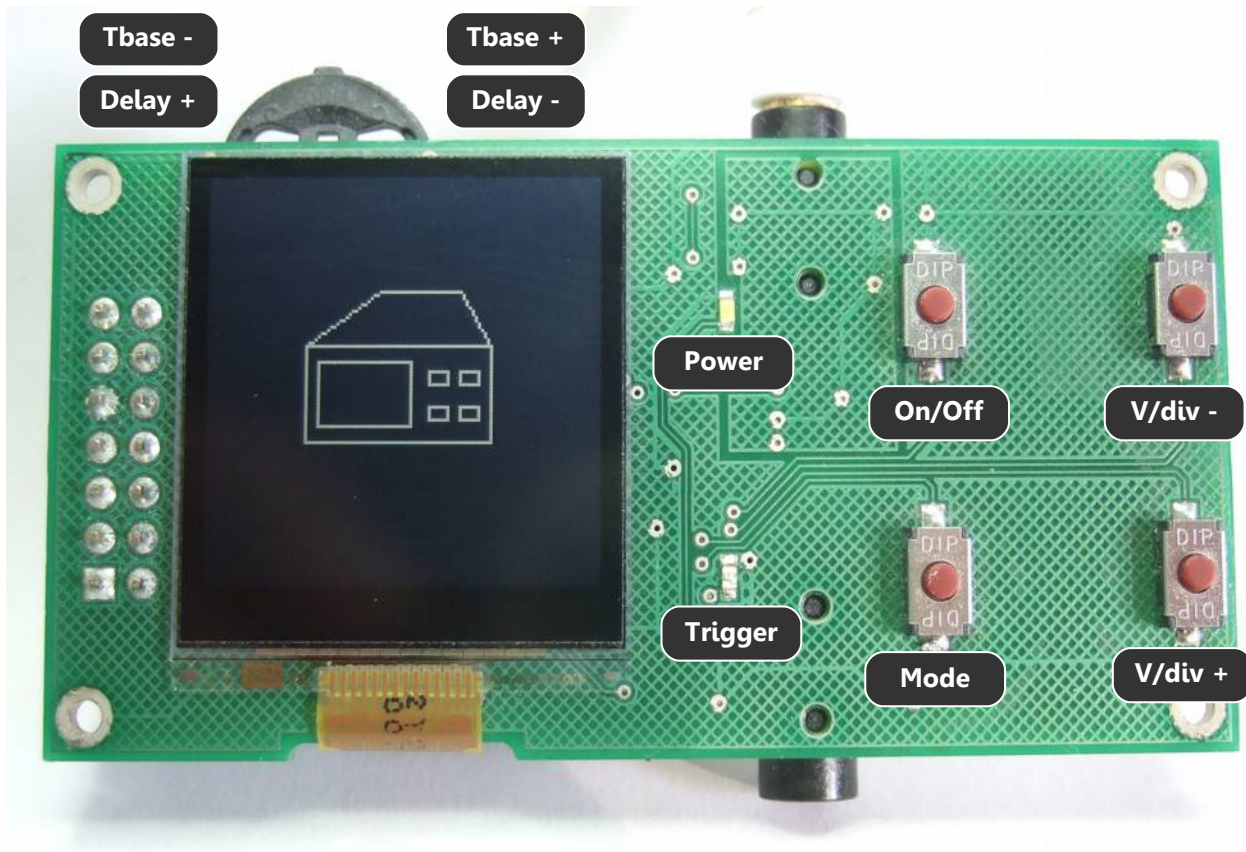

Figure 14. Oscilloscope Demo showing Icon and Controls
1. Program Demo 5 into the FFTD1A board and run. The display should resemble Figure 14